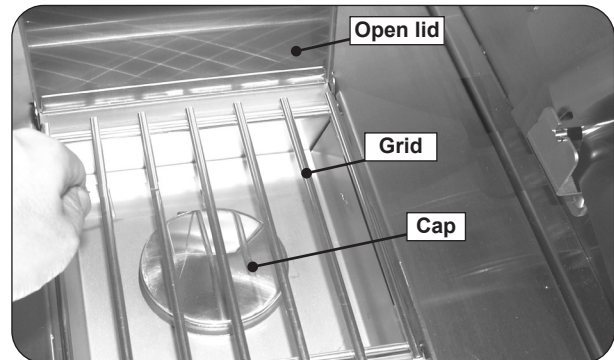

Fig. 24-2 Place burner cap and grid
4. Connect the female connector on the end of the hot surface igniter wire to the male connector coming from inside the grill. See Fig. 24-2.